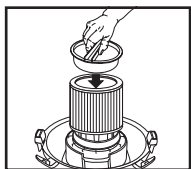

FIGURE 20
40. Place filter retainer into the top of the cartridge filter. **FIGURE 20.**